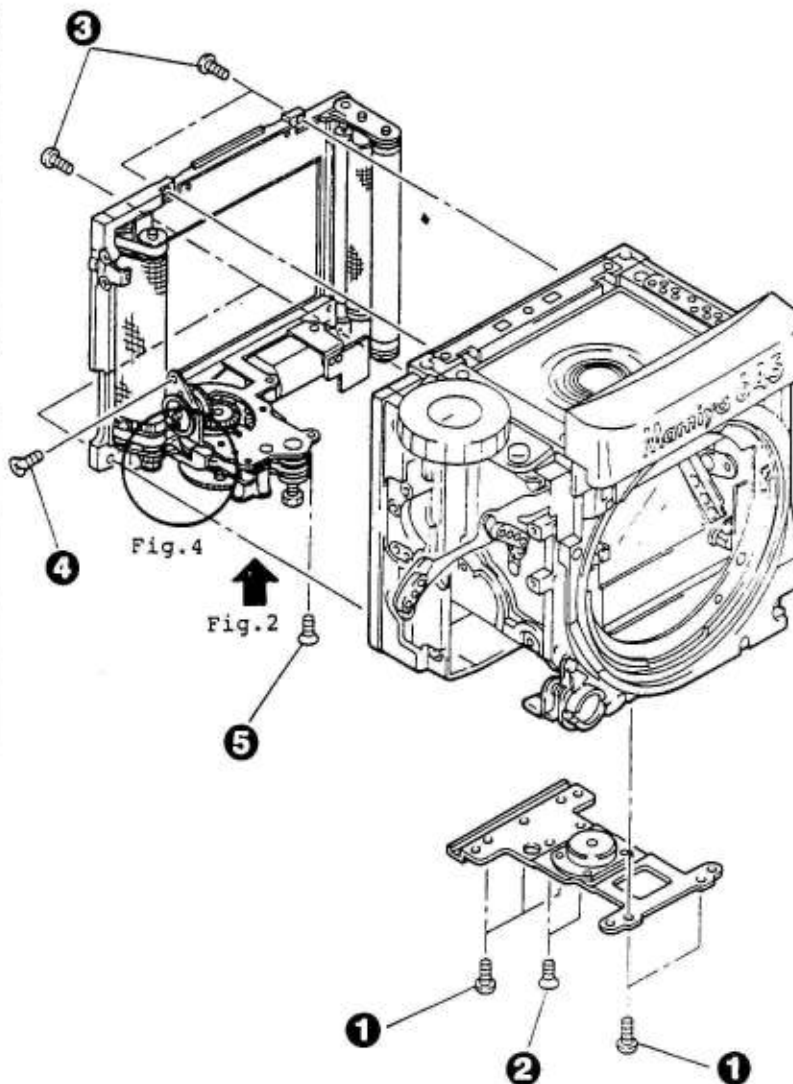

Fig. 1
1. Disassemble in the order of numerical figures shown in small circles. (See Fig. 1.)
**Note:** Let the F3 gear substrate A escape in the arrow direction, and remove the wind-up substrate unit C. (See Fig. 1.)
2. Disassemble in the order of numerical figures shown in small circles. (See Fig. 1.)
3. Remove two places of contact (H) from the battery case. (See Fig. 1.)